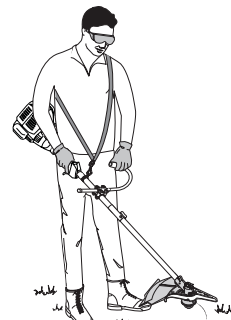

Fig. 3
6. While holding the unit in the operating position (Fig. 3), position the J-handle to the location that provides you the best grip.